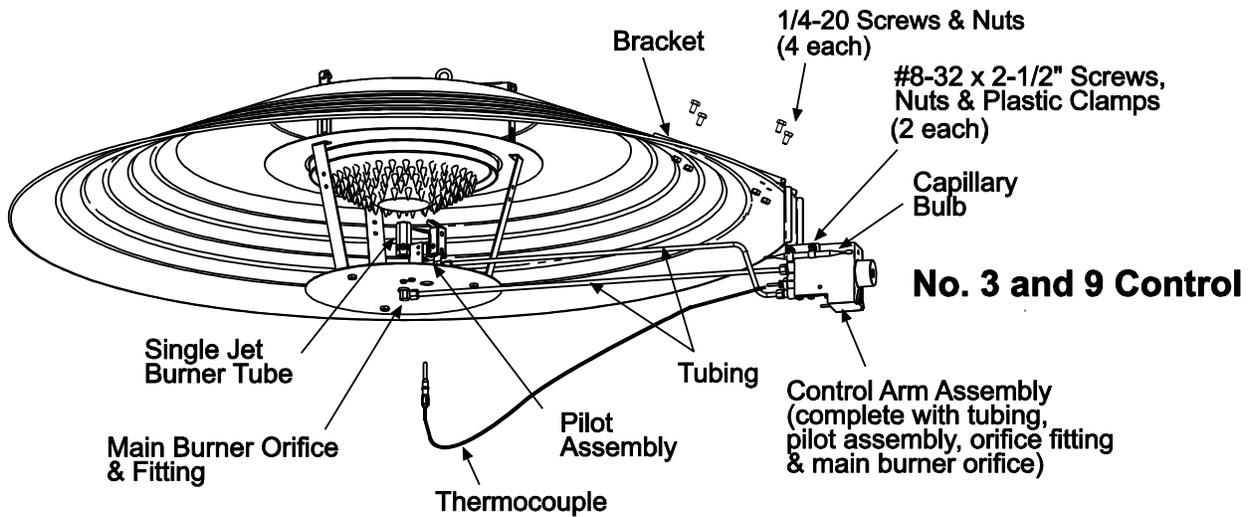

FIGURE 5
- Place the bracket for the gas control arm over the canopy and secure using four (4) 1/4-20 screws, washers and nuts from the fastener kit. See Figures 5 and 5a. **NOTE:** Mounting the control bracket to a 34" canopy requires use of the set of holes located at the end portion of the control bracket only. See Figure 7. Attach the gas valve to the control arm bracket using the fasteners indicated above and below for the 2B, 3 and 9 controls.